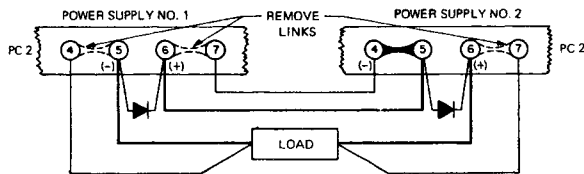

FIG. 3-11 SERIES CONNECTION OF PCX SUPPLIES
- 3-41 General. Kepco PCX-MAT Modules can be series connected for increased voltage output, provided the specified limits on voltage to chassis are not exceeded. When series-connected, the supplies should be protected by means of a semiconductor diode across the output terminals of each power supply, as shown in FIG. 3-11. The peak inverse rating of these diodes must be at least as large as the output voltage of the supply to which they are connected. The continuous current rating of the diodes should be at least as great as the largest short-circuit current of the interconnected supplies.
- Connect load as shown in FIG. 3-11. Keep voltage drop in load wires as low as practical by using heavy gauge wire.